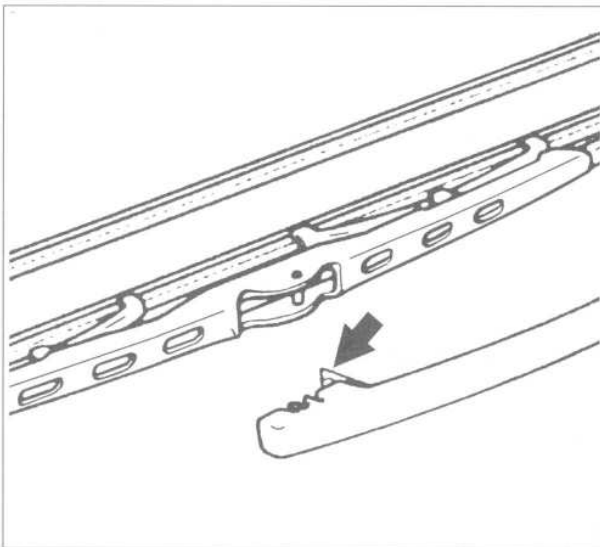

Fig. 2. Tailgate wiper blade. Depress retaining spring (arrow) to release blade from arm.
4. To remove rear wiper blade, push securing tab away from arm and pull blade away towards base of wiper arm. See Fig. 2.